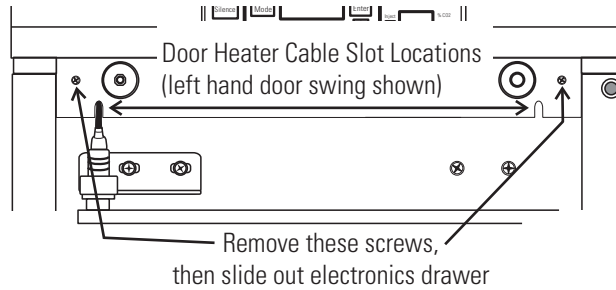

Figure 6-3. Screw Locations
1. Open the exterior cabinet door and remove the two screws shown in Figure 6-3.
5. When wiring is completed, slide the electronics drawer back in being very careful to place the door heater cable back into the provided slot so that the drawer does not pinch the cable. See Figure 6-3.